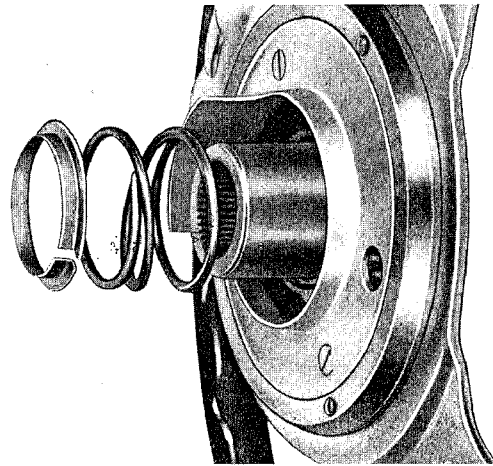

Fig. 72
1. Attach pressure spring and retaining ring to steering wheel hub. (see fig. 72). Fit steering wheel with the wheels in straight-ahead position, and make sure that central spoke points downward. Lock steering wheel nut by a lock washer.